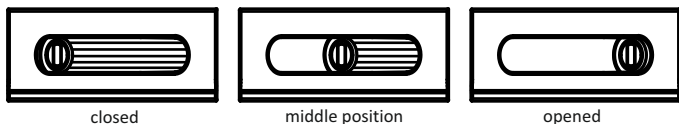

Fig. 4. The example adjustment of the air supply to the furnace (ash tray facade).
- the cover in the façade of the ash tray, by adjusting the air supply to the bottom of the furnace (see fig. 4),